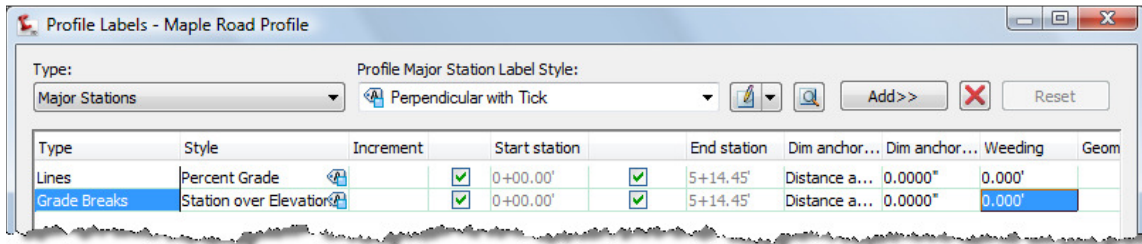

Figure 12
9. Set your active labels to show grade breaks and lines (Figure 12).